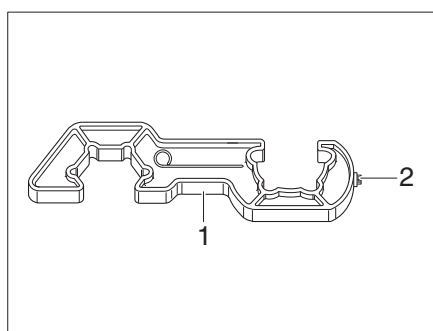

Fig. 246 Screw aid
- ▶ To screw and unscrew the high-pressure hose, use the screwing aid provided (Fig. 246,1). It ensures the necessary tightening torque and prevents damage to the screw connection caused by the wrong tool.
- Unscrew the high-pressure hose (Fig. 245,3) from the gas cylinder using the screwing aid (Fig. 246).